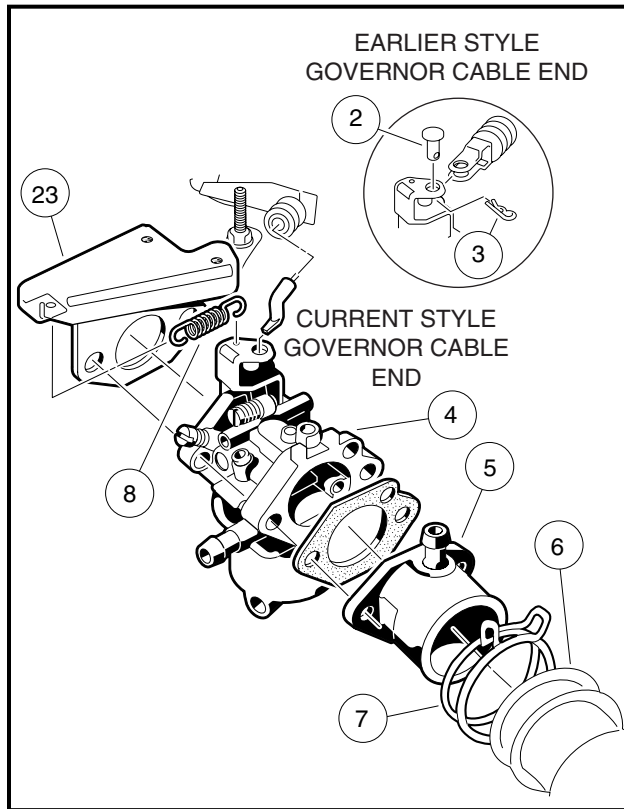

Figure 3-1 Carburetor Removal
- 1.1. Remove cotter pin (3) and clevis pin (2) from throttle valve lever (**Figure 3-1, Page 3-5**).
- 2.1. Remove the 'Z' shaped cable end from the throttle valve lever (**Figure 3-1, Page 3-5**).
3. Remove nuts at carburetor intake pipe (5) and remove intake pipe. **See following CAUTION.**
4. Remove carburetor (4) along with throttle spring (8) and throttle spring bracket (23) (**Figure 3-1, Page 3-5**).